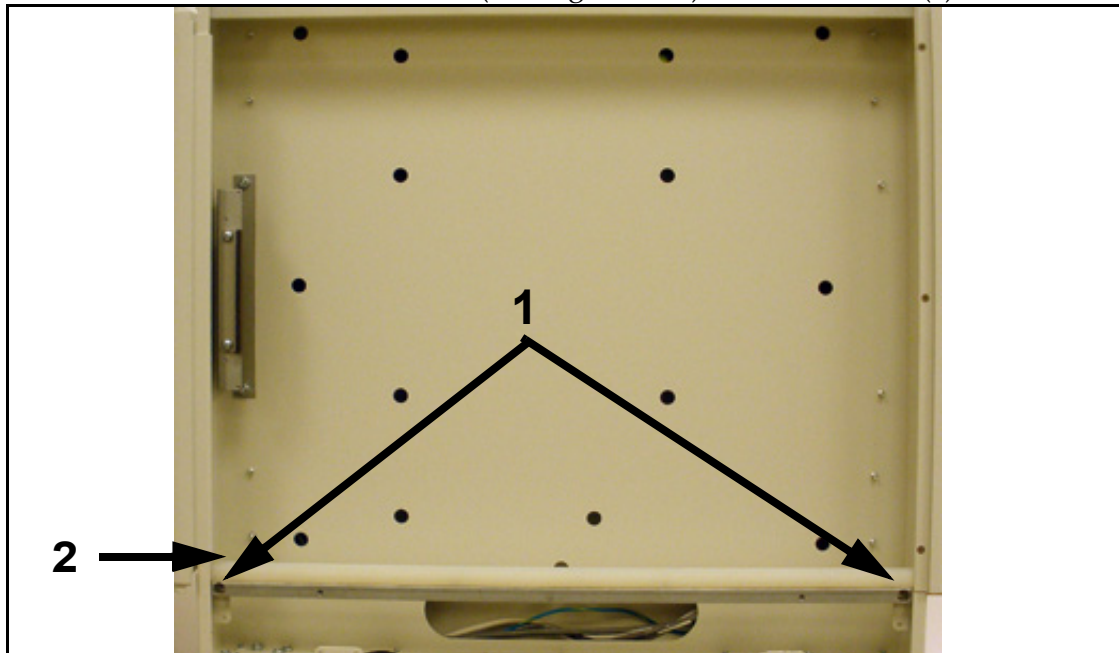

Figure E-11. Bar Removal
11 Unscrew screws (1 in Figure E-11) and remove bar (2).